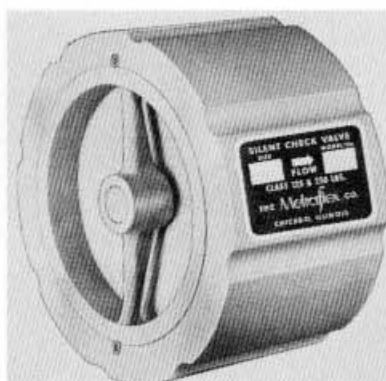

Figure 3
3. Compact wafer - consists of a body, disc, seat and spring and fits inside of the bolting in a flanged connection. See Figure 3.